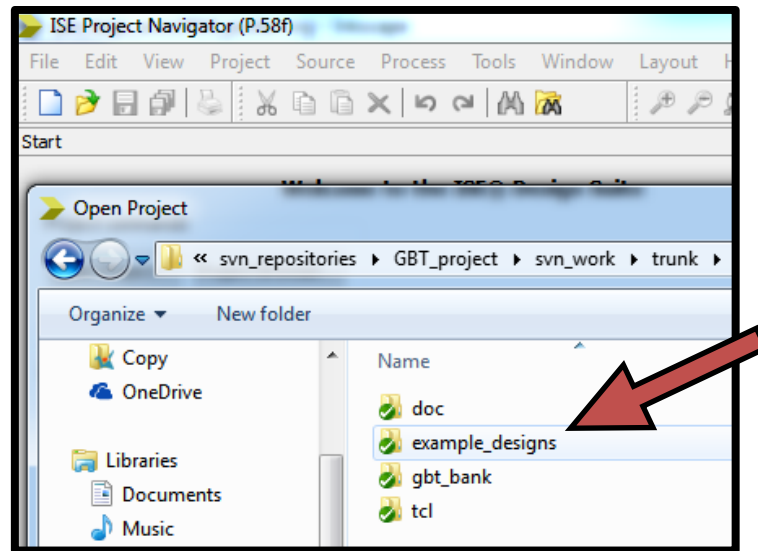

Figure 26: Root folder of the GBT-FPGA source files from the SVN repository
10. Find the folder where you have downloaded the GBT-FPGA Core source files from the GBT-FPGA SVN repository (see Figure 26).